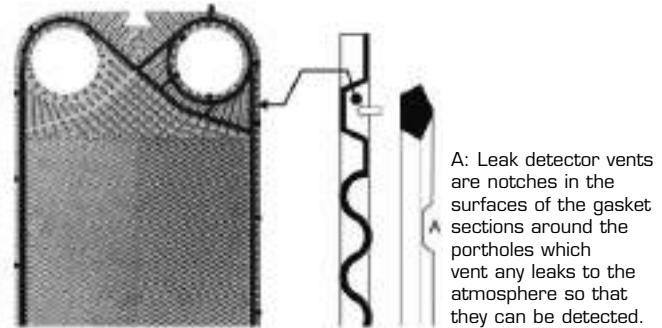

Fig.6
- Press the gasket onto the plate (Fig. 6), making sure that the leak detector vents, "A", are facing up and check that the Plug-In® tabs are hooked into their respective notches (Fig.7). Make sure that the gasket is properly seated in its notch, then turn the plate over to check again that all the Plug-In® tabs are correctly in place.